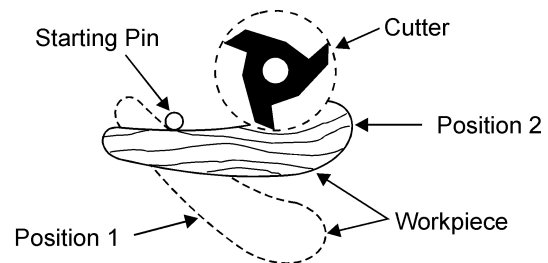

Figure 39
When the workpiece is not contoured all around, start the cut as shown in Figure 39. With this operation, the workpiece is positioned against the starter pin and the end swung into place to start the cut. When the cut has begun and the workpiece firmly against the collar, swing the stock away from the pin and proceed with cut.
1. The work should be placed in the *position 1*, (Figure 39), using the starting pin as a support